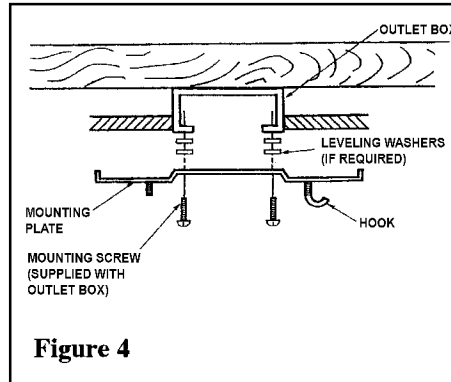

Figure 4
- 1) Securely attach the mounting plate to the outlet box (Figure 4) using two screws (supplied with outlet box). Pull the black, white and ground wires out of the outlet box through the hole in the mounting plate and lay them to the side.
**NOTE:** For better fan performance, make sure the mounting plate is level. Additional washers (not included) may be needed to insert between the electrical box and mounting plate (Figure 4).